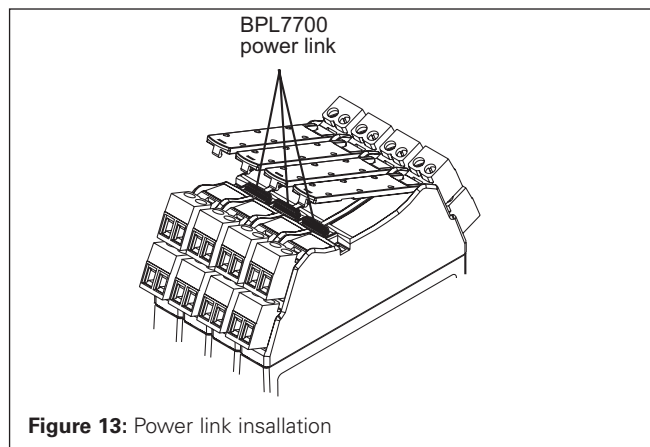

Figure 13: Power link installation
Install the power links as follows (figure 13):
- Lift the tag holders to gain access to the power link connectors and insert the links (figure 13).